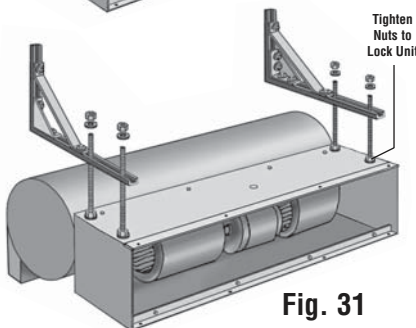

Fig. 31
5. Finally, move the air curtain into position by placing the threaded rods into the wall brackets. Using washers and hex nuts secure the unit to the brackets. (See Fig. 31) Then tighten all 4 nuts at the bottom of the rod to lock the unit into place.